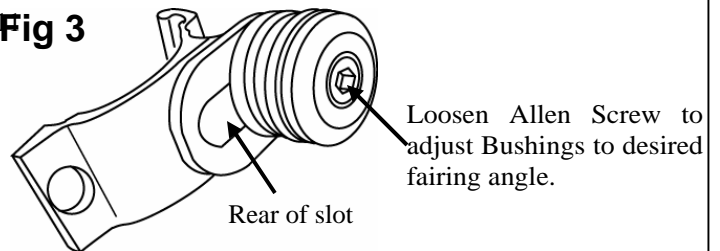

Fig 4
6. Slip the fairing mounting plates and fairing onto the fork clamp bushing. (See Fig 4)